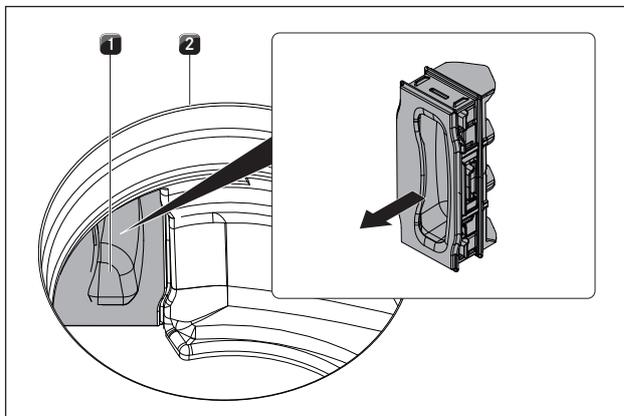

Fig. 8.4 Remove the filter replacement cover
- ▶ Inside the inlet opening pull the filter replacement cover out of the filter housing opening (To remove the filter replacement cover see Fig. 8.4).